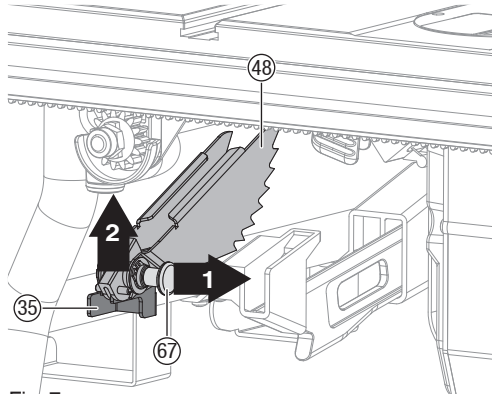

Fig. 7a
ANTI-KICKBACK PAWLS INSTALLATION (Fig. 7a-7b)
- Pull out and hold knob (67) and push anti-kickback pawls up, remove it from the anti-kickback pawls storage (35) located on inside of the left side of saw. (Fig. 7a)